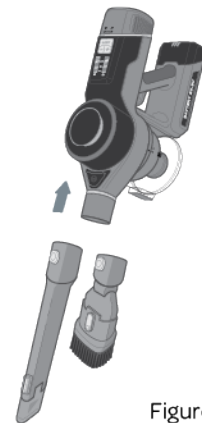

Figure 2
2. Slide the crevice tool or dusting brush onto the vacuum body (Figure 2).